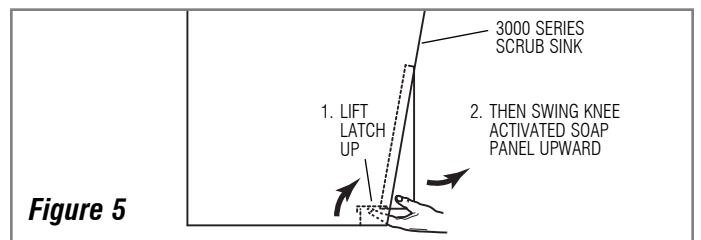
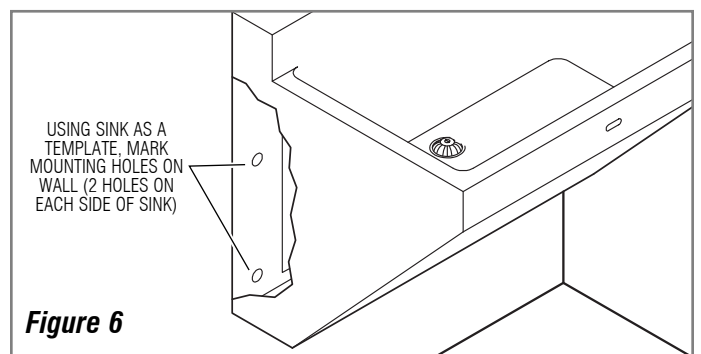

Figure 5
Figure 6
For 3000 Series Scrub Sinks, lift the Latch under the Knee Activated Soap Panel, then lift Knee Activated Soap Panel to gain access to mounting holes. Refer to Figure 5. Mark all four (4) Anchoring Hole locations using Sink as a template. Refer to Figure 6.